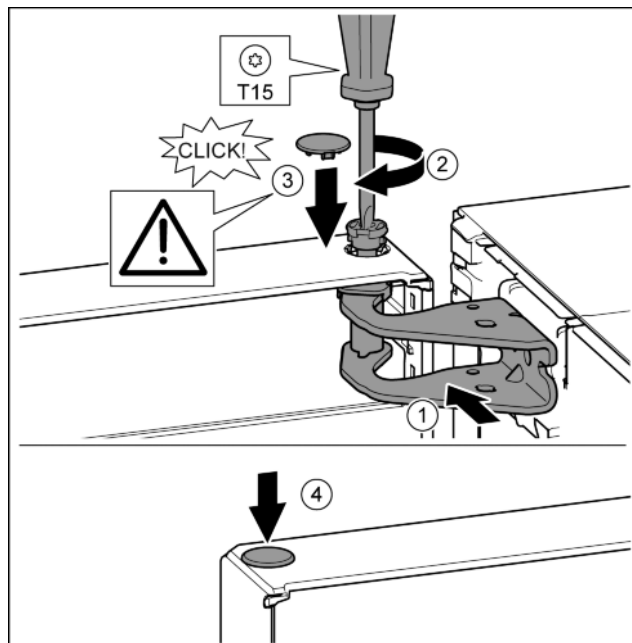

Fig. 24
- ▶ Align the top of the door with opening in the bearing bracket. *Fig. 24 (1)*
- ▶ Insert the bolt and tighten with a T15 screwdriver. *Fig. 24 (2)*
- ▶ Fit the protective cover to protect the door: Insert the protective cover and check that it is attached to the door. If not, insert the bolt fully. *Fig. 24 (3)*
- ▶ Insert the plugs. *Fig. 24 (4)*